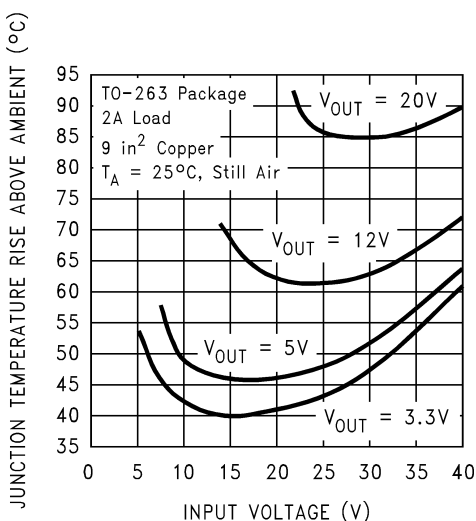

Figure 39. Junction Temperature Rise, TO-263
The LM2590HV is available in two packages, a 5-pin TO-220 (T) and a 5-pin surface-mount TO-263 (S). The TO-220 package needs a heat sink under most conditions. The size of the heatsink depends on the input voltage, the output voltage, the load current and the ambient temperature. Higher ambient temperatures require more heat sinking. The TO-263 surface-mount package tab is designed to be soldered to the copper on a printed circuit board. The copper and the board are the heat sink for this package and the other heat producing components, such as the catch diode and inductor. The PCB copper area that the package is soldered to must be at least 0.4 in2, and ideally must have 2 or more square inches of 2 oz. (0.0028) in. copper. Additional copper area improves the thermal characteristics, but with copper areas greater than approximately 6 in2, only small improvements in heat dissipation are realized. If further thermal improvements are needed, double-sided, multilayer PC board with large copper areas or airflow are recommended. The curves shown in Figure 39 show the LM2590HV (TO-263 package) junction temperature rise above ambient temperature with a 2-A load for various input and output voltages. This data was taken with the circuit operating as a buck switching regulator with all components mounted on a PCB to simulate the junction temperature under actual operating conditions. This curve can be used for a quick check for the approximate junction temperature for various conditions, but be aware that there are many factors that can affect the junction temperature. When load currents higher than 2 A